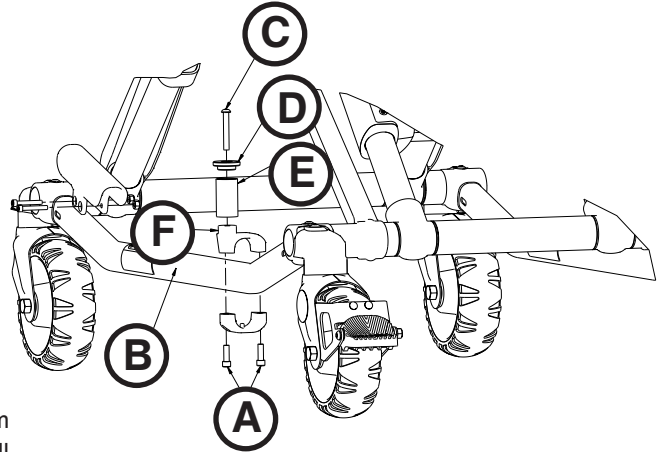

Figure 54
3. Using a T30 Torx driver, remove the two socket head cap screws (A) that secure the current cot retaining post to the base tube (B) (Figure 54). Discard the screws and cot retaining post.
4. Insert the button head cap screw (C) through the retaining post cap (D) and post tube (E), and then into the top pin bracket (F) (Figure 54).
5. Using a 5/32" hex wrench, tighten the button head cap screw (C) completely to secure the retaining post cap (D) and post tube (E) to the top pin bracket (F) (Figure 54). Using a torque wrench, torque the screw to 100-140 in-lb.